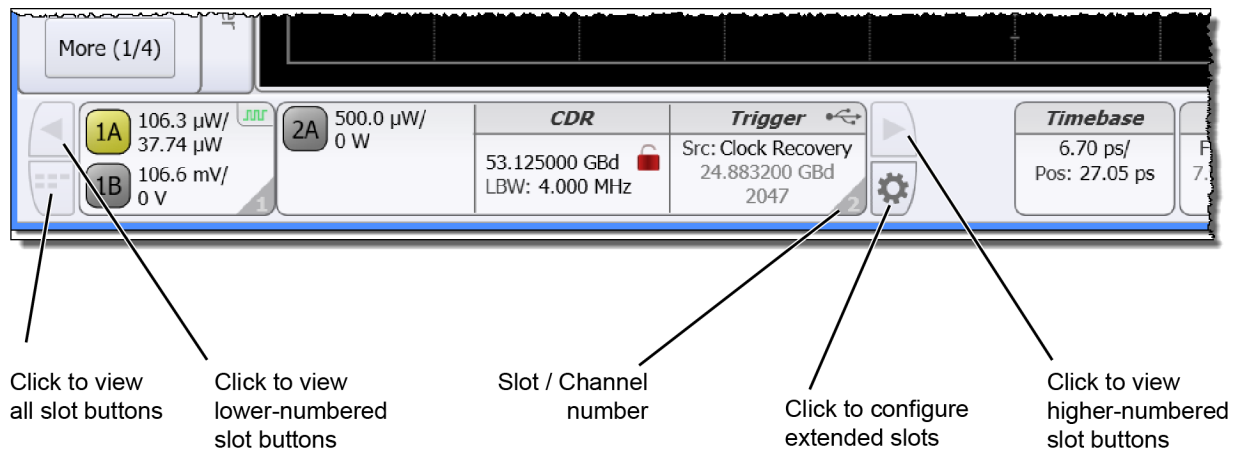

Figure 15. Slot buttons at bottom of FlexDCA application
- In FlexDCA's slot button tray, shown in *Figure 15 on page 40*, locate the slot button for your installed DCA-M. Click the gear button if you want to re-assign the DCA-M to a different slot. This can also be accomplished remotely as shown in *Example 3. Perform eye measurement with N109X & N1076/7A on page 153*.